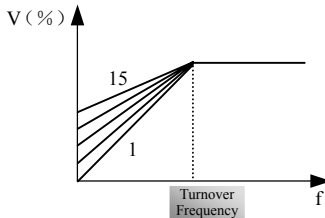

Fig 5-7 Torque Promotion
- Torque promotion can be set through F502 for selection of polygonal-line type V/F curve. Higher value setting will incur bigger compensation (as shown in Fig 5-7), and more starting current. Over-setting values may result in inverter’s over-current protection.